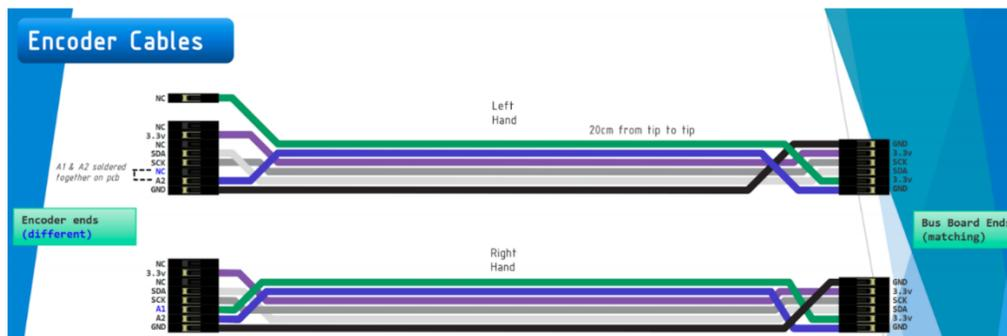

Figure 24
1. Figure 24 below shows the way the left and right encoder cables should be wired and connected.
4. Verify again that your wiring is done as shown in Figures 24 and 25 before powering on the SCUTTLE.